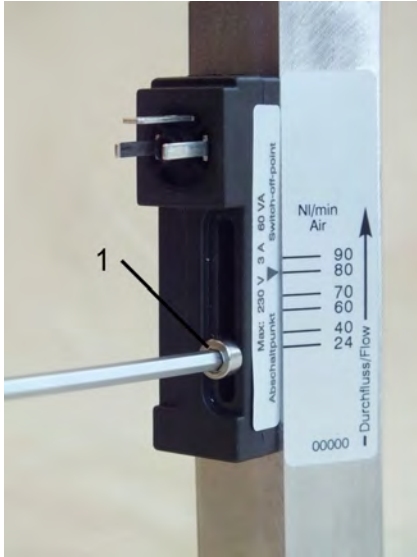

Fig. 33: Loosen the set screw
1. Loosen the set screw of the switch contact (Fig. 33/1) using a Hex-Screwdriver screwdriver.
3. Re-tighten the set screw of the switch contact (Fig. 33/1) using a Hex-Screwdriver. When doing so, observe the correct tightening torque of the screw.